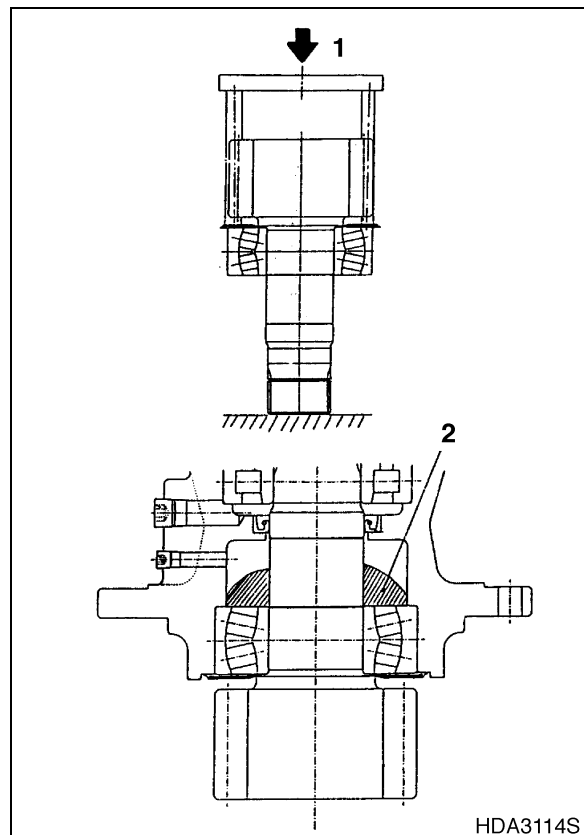

Figure 5
- A. Insert ring (26) and support plate (28) into shaft.
- B. Spread grease on inner side of roller bearing (17) then install completely using a press. Apply grease to the bearing (2, Figure 5).